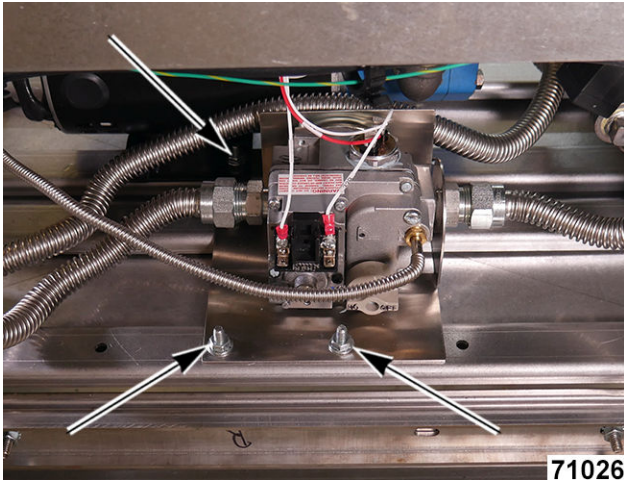

Fig. 48
5. Remove valve bracket nuts (Fig. 48).
10. Bolt in replacement valve / bracket (Fig. 48).